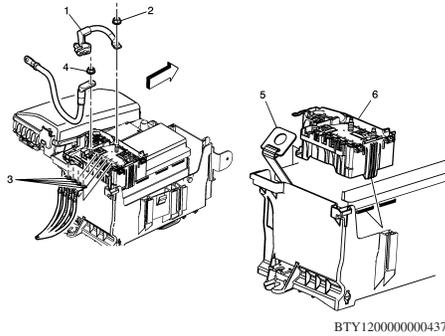

Fig. 2 Fuse block removal
8. Remove battery positive fuse block cable nut (2) and cable (1), **Fig. 2**.
9. Remove body harness terminal nuts (3), **Fig. 2**.
10. Remove fuse block nut (4) and battery positive cable, **Fig. 2**.
11. Remove battery hold down retainer (5) and fuse block (6), **Fig. 2**.
3. Install fuse block (6), **Fig. 2**.
4. Install battery positive cable and fuse block nut (4), **Fig. 2**. **Torque** nut to 106 inch lbs.
5. Install body harness terminal nuts (3), **Fig. 2**. **Torque** nuts to 42 inch lbs.
6. Install battery positive fuse block cable (1) and nut (2), **Fig. 2**. **Torque** nut to 106 inch lbs.